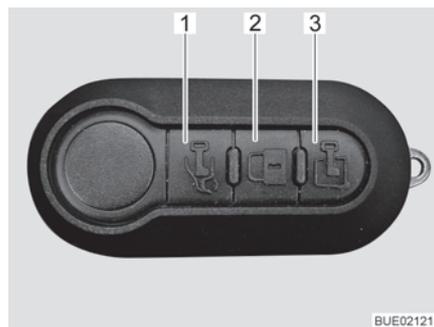

Fig. 59 Multifunctional remote control (3 buttons)
- Press the  button (Fig. 59,1) once briefly. The driver's door is unlocked.
- Press the  button (Fig. 59,3) once briefly. The conversion door is unlocked.
- Press the  button (Fig. 59,2) once briefly. All doors have been locked.